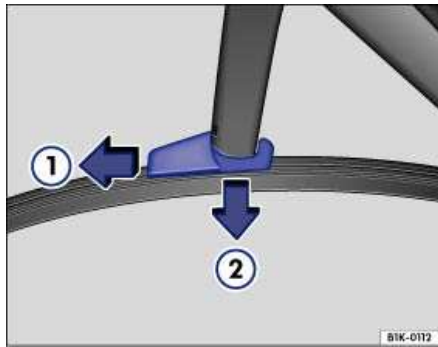

Fig. 15 Changing rear window wiper blade.
- Unlock the wiper blade the direction of the arrow ⇒ Fig. 15 (1).
- Remove the wiper blade in the direction of the arrow (2).
- Slide a new wiper blade **of the same length and design** onto the wiper arm (2) in the opposite direction to the arrow (A).
- Slide the release in the opposite direction to the arrow (1) to lock the wiper blade.